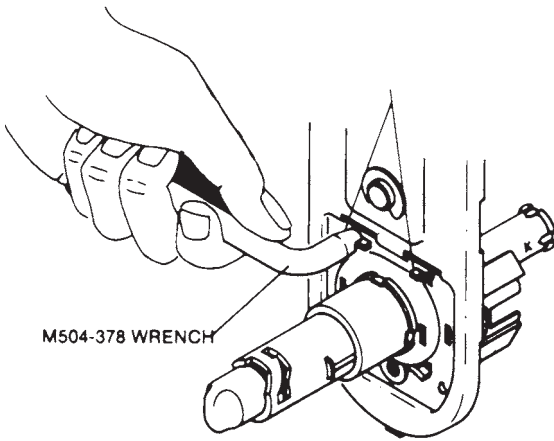

Figure 13.73 Changing hand, Step 4.
4. With a factory-supplied wrench or long-nosed pliers, straighten the tabs (Fig. 13.73).